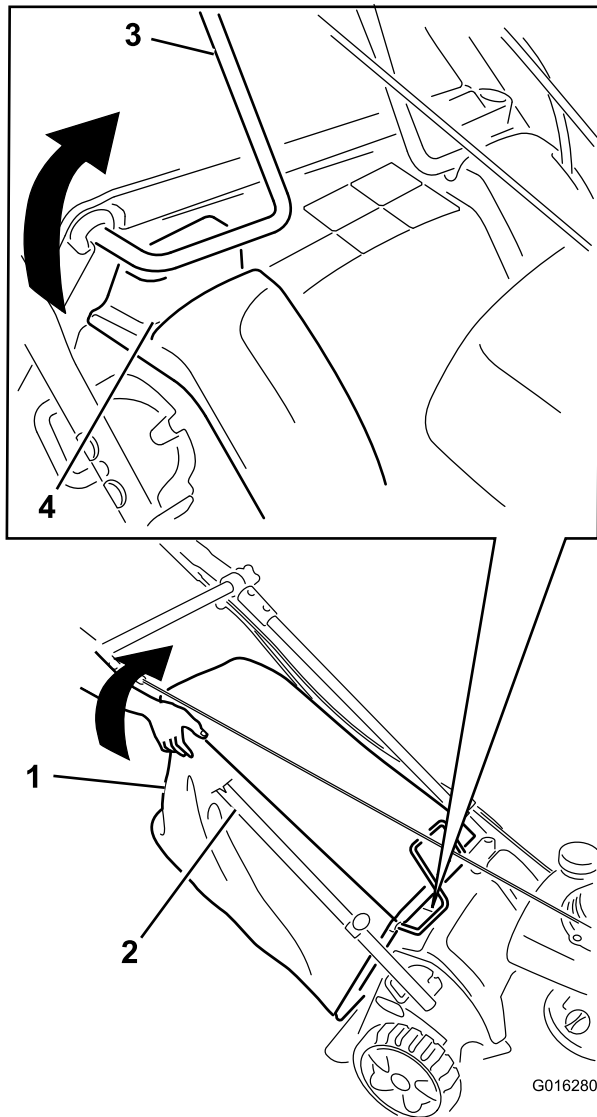

Figure 60
5. While the engine is running, lift up the upper right rear corner of the grass bag until the wire-bag frame at the upper right front of the grass bag is completely out of the right-hand slot (Figure 60). **The engine should stop.**